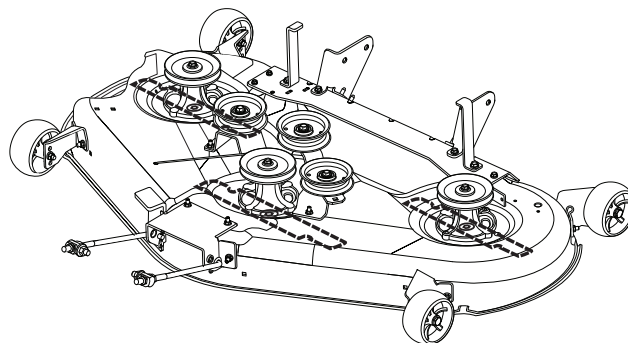

Figure 35. Orient Blades Side-to-Side
4. Set the cutting height to mid position. Arrange the mower blades so that they are pointing from side-to-side (see Figures 35 & 36).